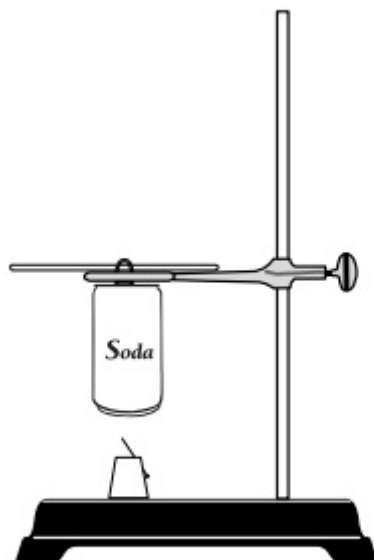

Figure 2.
5. Bend the tab on the soda can and slide a glass stirring rod through the hole. Suspend the can on a support stand using a metal ring (see Figure 2). Adjust the height of the can so that it is about 2.5 cm above the evaporating dish.